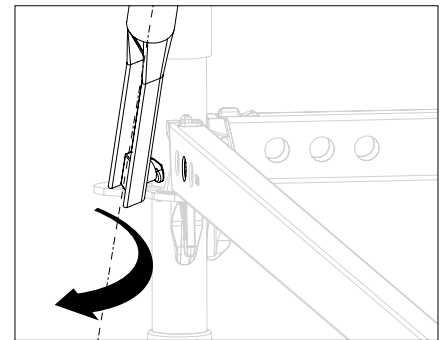

Fig. A4.06b
2. Screw the mounting finger into the hole of the lower ledger (**15a**). (Fig. A4.06b)